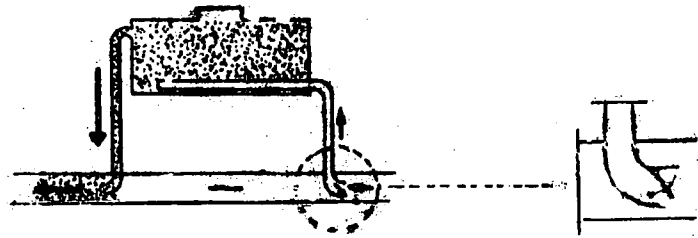

Fig. 3
- d) Adjust opening of the dust nozzle using the adjusting lever (Fig. 3).